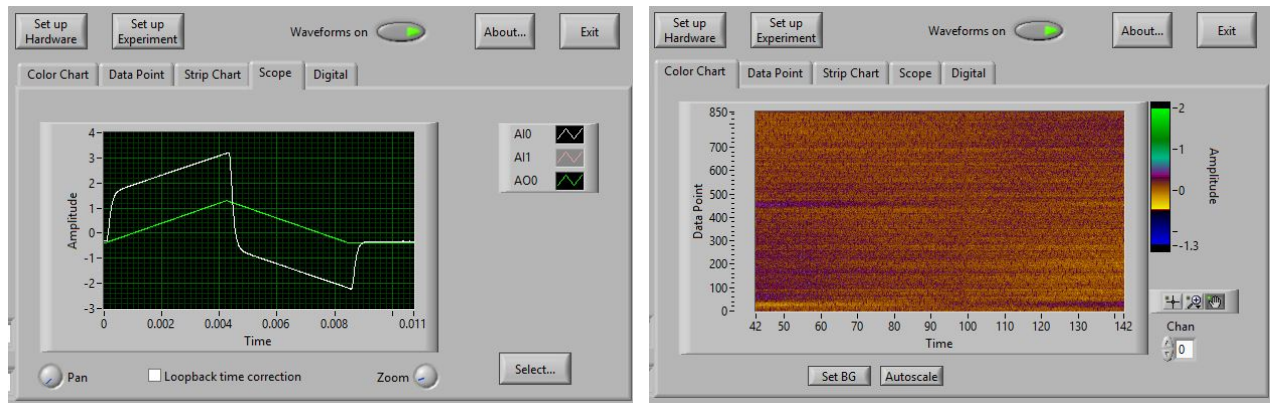
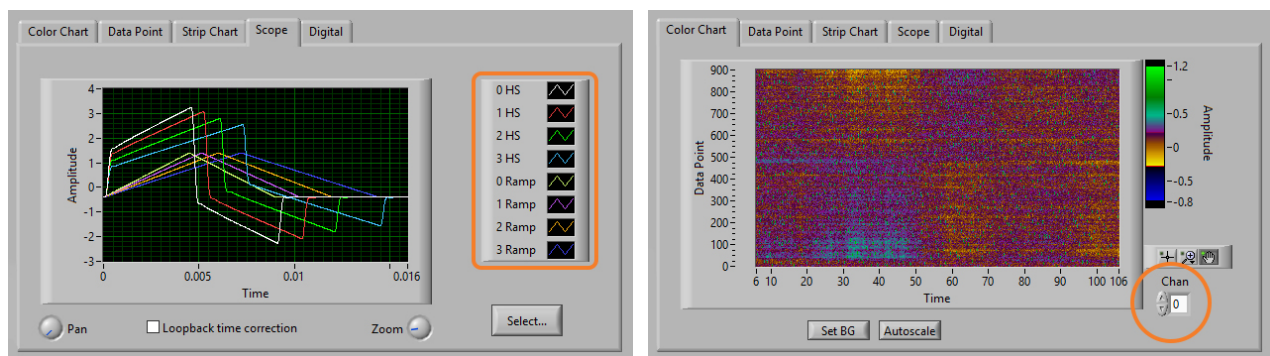
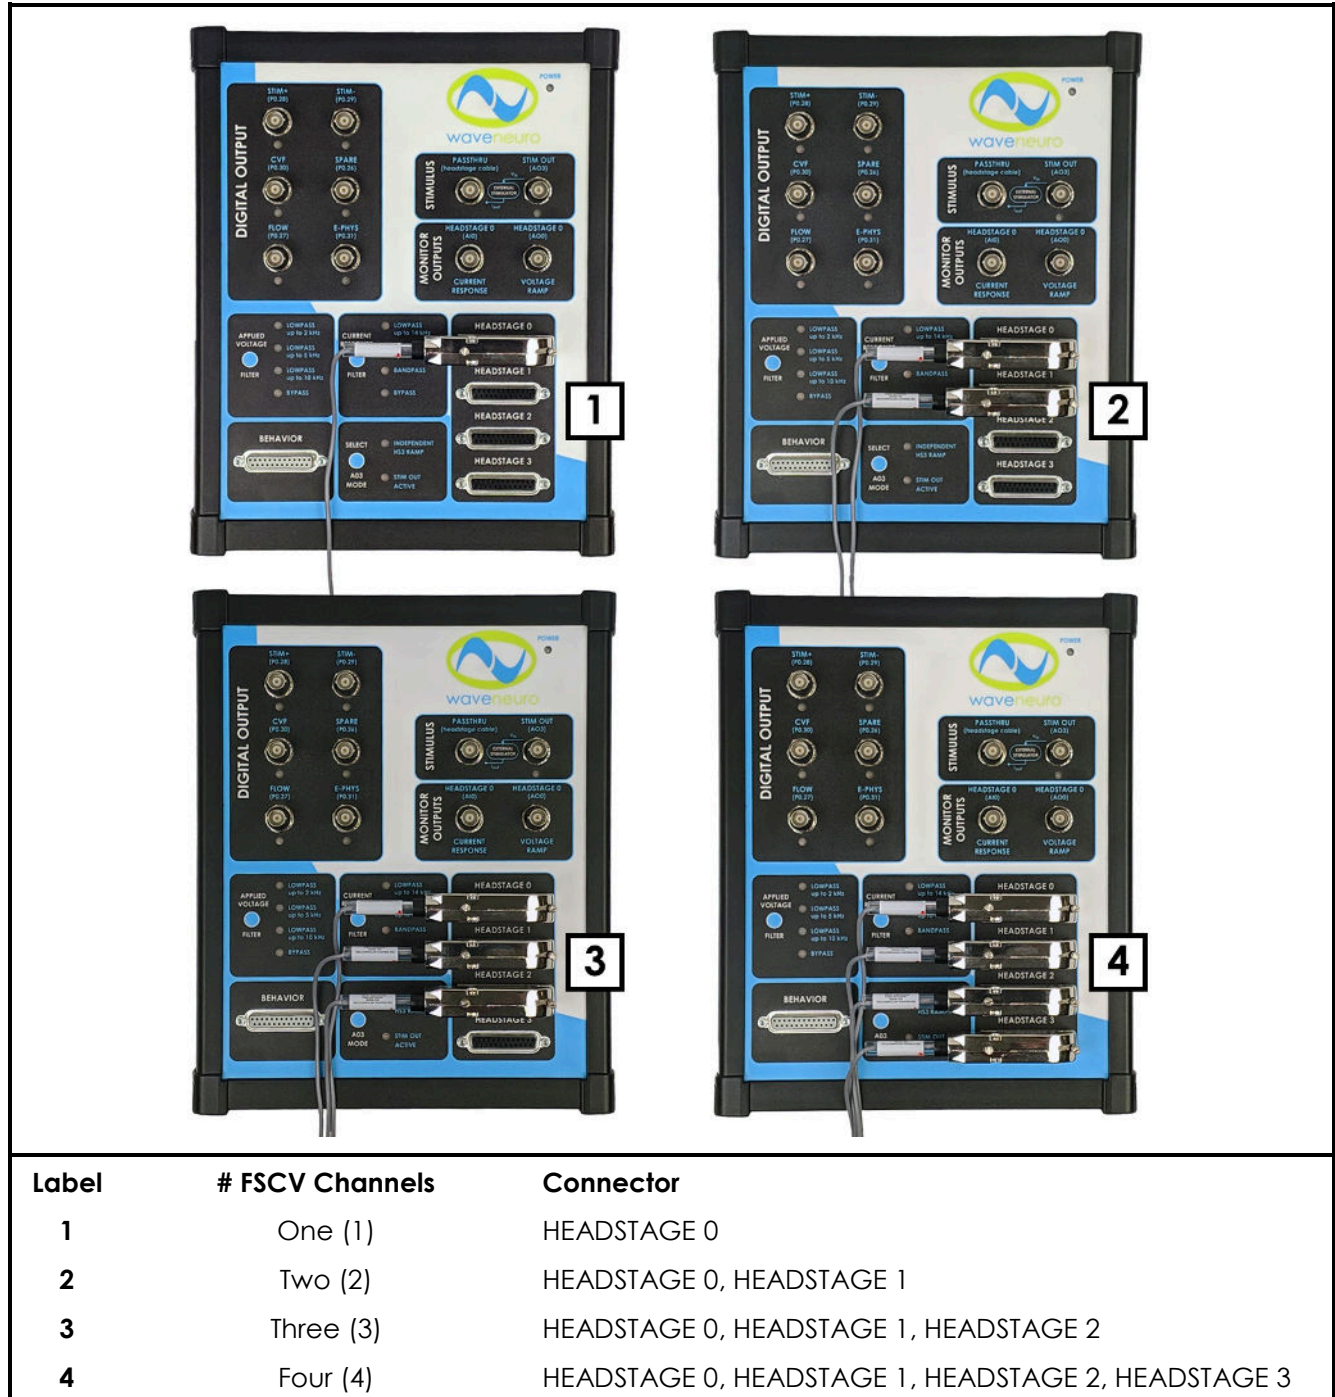
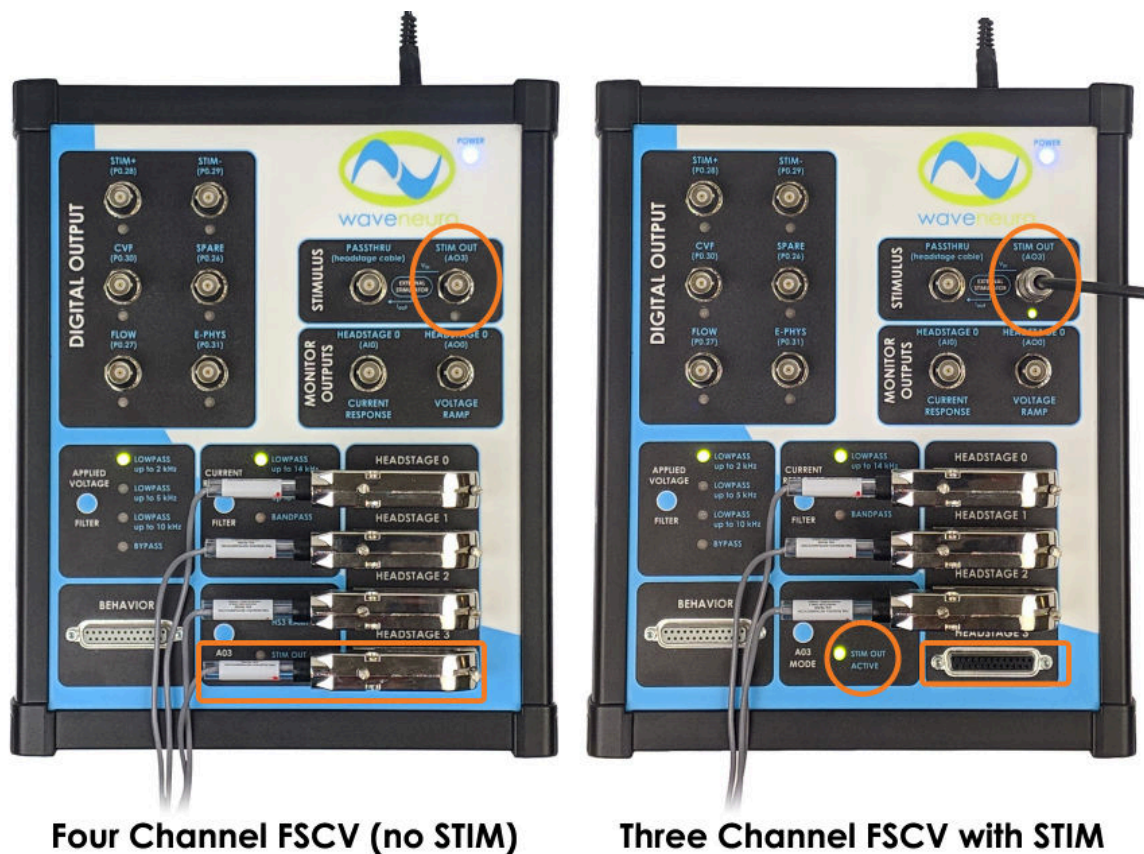

Figure 5-11: Scope (left) and Color Chart (right) Live Display Panels in HDCV
Figure 5-12: Scope (left) and Color Chart (right) Live Display Panels in HDCV (multichannel mode)
Figure 6-1: Multichannel Headstage Cable Installation for WaveNeuro 4
Figure 6-14: Unique Multichannel Configurations of the WaveNeuro 4
1. Apply the electrochemical waveform(s) to the dummy cell(s) by pressing the Waveform on button in HDCV (see: Figure 5-1). The live view window has five tabs, with Scope being the default view. Select Scope (see: Figure 5-11).
2. With the dummy cell connected to the WaveNeuro 4 and the standard dopamine waveform applied to the dummy cell (green trace on Scope), the current response of that applied waveform across the dummy cell circuit is displayed on the Scope in white (see: Figure 5-11). For **multichannel mode**, each waveform and current response will appear on the Scope simultaneously (see: Figure 5-12). If the observed current response does not follow waveform as expected, double check all cable connections between the WaveNeuro 4 and the computer and that the WaveNeuro 4 is powered on.
3. Select Color Chart tab in the live display area. In this mode, the electrochemical response will be continually recorded and displayed as an electrochemical color plot. The time of the CV for background subtraction can be define by pressing the Set BG buttons on the bottom of the display. Pressing the Autoscale button will adjust the magnitude of the current response on the plot. Right click on the mouse select Clear Chart to reset the collection of data. Then reset the background and scale by clicking on the Set BG and Autoscale buttons. The resulting color plot should look similar to the results shown (see: Figure 5-11). Note that the scale on the color plot in Figure 5-11 is $+2 \text{ nA}$ to -1.3 nA and the scale of the colorplot can be manually adjusted by selecting (left clicking) an endpoint and entering a value. The background CV used must be periodically updated by pressing the Set BG button. After $\sim 5 \text{ min.}$ of applying the waveform, if the resulting color plot is not stable within $\pm 5 \text{ nA}$ over the displayed time, please take a screen shot and contact Pine Research for technical support.
For **multichannel mode**, note that while the HDCV software is able to collect multiple channels, the software only displays a single channel at a time in most regions of the software. In both HDCV and HDCV Analysis, the data channel that is being displayed can be defined using the “Chan” or “Channel” select function (see: Color Chart orange circle in Figure 5-12). Scrolling through the channels will enable each channel to be displayed independently in HDCV.
2. Turn the waveform on by clicking the *Waveform on* button (see: Figure 5-1). Repeat steps 2-3 from Section 5.3 to observe the same behavior as before when the dummy cell was connected directly to the WaveNeuro 4 (see: Figure 5-11).
For **multichannel mode**, follow the same steps outlined here, but add the appropriate number of headstage cables and dummy cells (see: Figure 6-1). The responses should match those shown for multichannel WaveNeuro 4 Dummy Cell tests (see: Figure 5-12).
3. Turn the waveform on by clicking the *Waveform on* button (see: Figure 5-1). Repeat steps 2-3 from Section 5.3 to observe the same behavior as before when the dummy cell was connected directly to the WaveNeuro 4 (see: Figure 5-11).
For **multichannel mode**, follow the same steps outlined here, but add the appropriate number of headstage cables, headstage amplifiers, and dummy cells (see: Figure 6-1). The responses should match those shown for multichannel WaveNeuro 4 Dummy Cell tests (see: Figure 5-12).
For **multichannel mode**, follow the same steps outlined here, but add the appropriate number of headstage cables, headstage amplifiers, microelectrode-headstage couplers, and dummy cells (see: Figure 6-1). The responses should match those shown for multichannel WaveNeuro 4 Dummy Cell tests (see: Figure 5-12).
For **multichannel mode**, follow the same steps outlined here, but add the appropriate number of DB-25 extension cables and dummy cells (see: Figure 6-1). The responses should match those shown for multichannel WaveNeuro 4 Dummy Cell tests (see: Figure 5-12).
The WaveNeuro 4 can be used to perform 1, 2, 3, and/or 4 channel FSCV. Each channel has its own headstage connector on the front panel of the WaveNeuro 4 (see: Figure 2-4). Pine Research recommends that users start with HEADSTAGE 0 (for single channel) and add additional channels (headstage cables) in ascending HEADSTAGE connector order (see: Figure 6-1).
Connect one headstage cable to HEADSTAGE 0 connector on the front panel of the WaveNeuro 4 (see: Figure 6-1). STIM OUT may be used by pressing the “Select AO3 Mode” button until “STIM OUT ACTIVE” LED illuminates. Review Sections 2.7.5 and 5.1.3 for details on using stimulus.
Connect two headstage cables to HEADSTAGE 0 and HEADSTAGE 1 connectors on the front panel of the WaveNeuro 4 (see: Figure 6-1). STIM OUT may be used by pressing the “Select AO3 Mode” button until “STIM OUT ACTIVE” LED illuminates. Review Sections 2.7.5 and 5.1.3 for details on using stimulus.
Connect three headstage cables to HEADSTAGE 0, HEADSTAGE 1, and HEADSTAGE 2 connectors on the front panel of the WaveNeuro 4 (see: Figure 6-1). STIM OUT may be used by pressing the “Select AO3 Mode” button until “STIM OUT ACTIVE” LED illuminates. Review Sections 2.7.5 and 5.1.3 for details on using stimulus.
Connect four headstage cables to HEADSTAGE 0, HEADSTAGE 1, HEADSTAGE 2, and HEADSTAGE 3 connectors on the front panel of the WaveNeuro 4 (see: Figure 6-1). STIM OUT cannot be used in four channel FSCV mode (see: Figure 6-14). Four FSCV channels may be used by pressing the "Select AO3 Mode" button until "INDEPENDENT HS3 RAMP" LED illuminates.